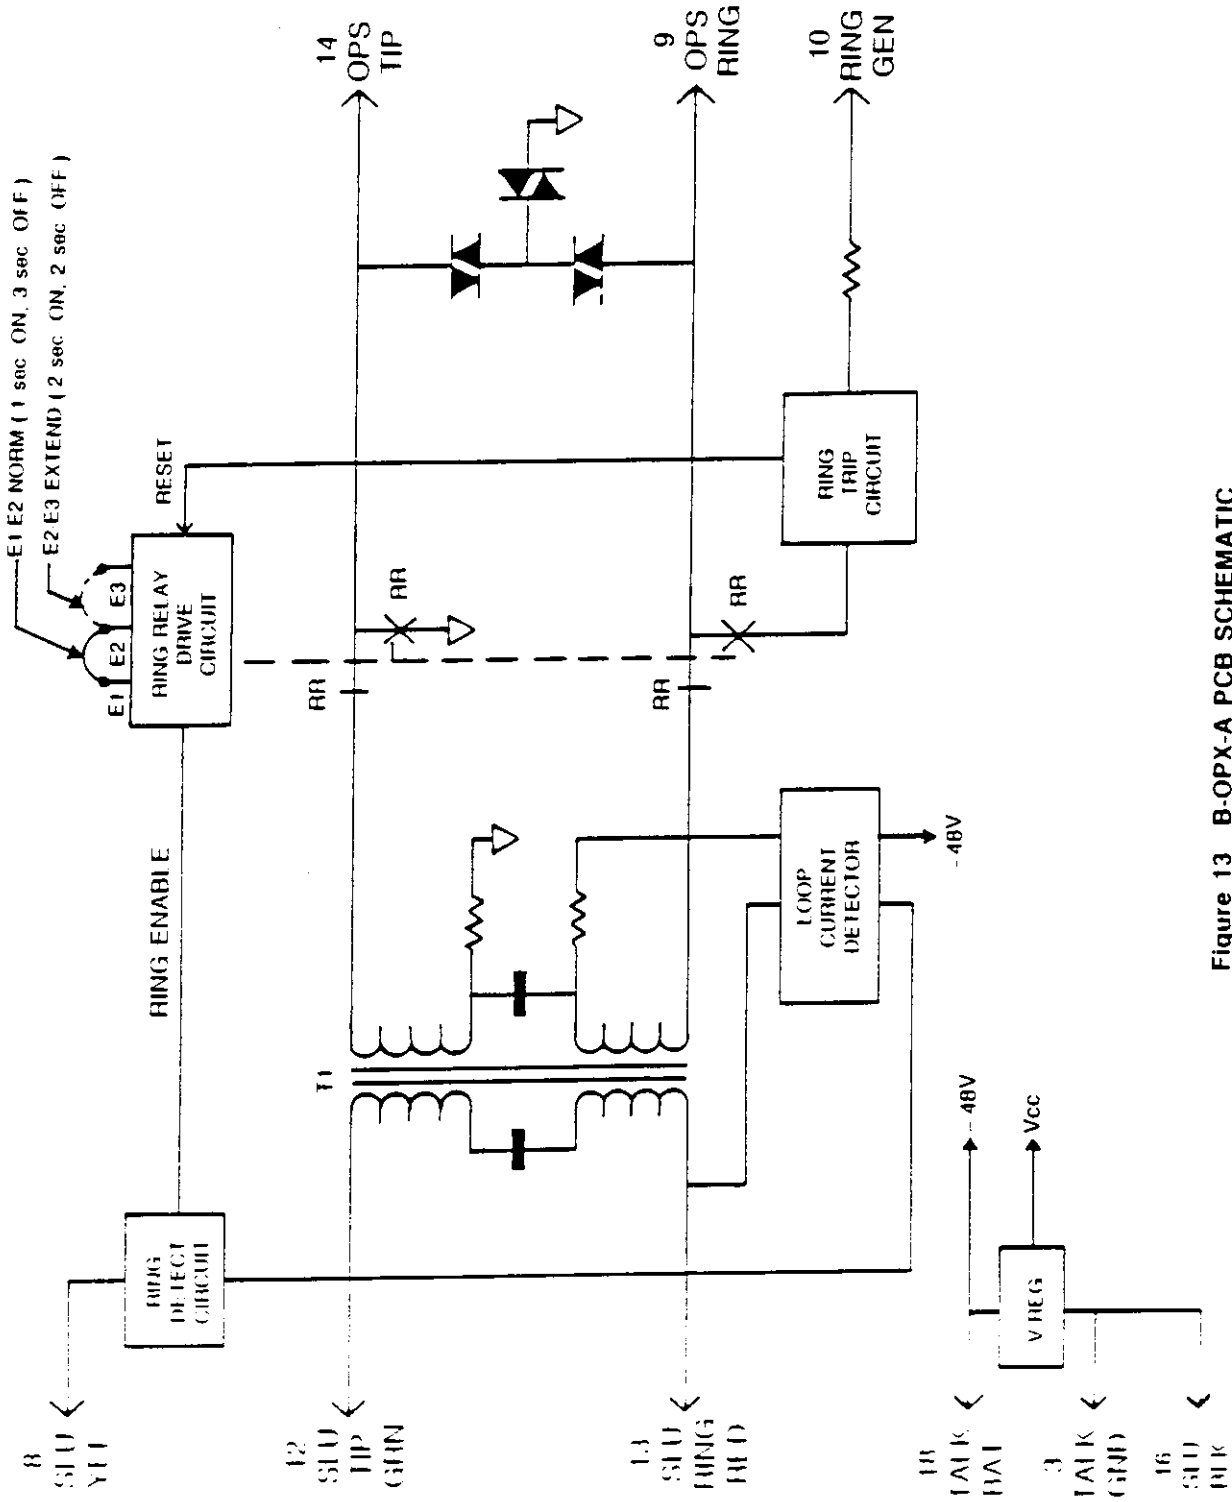

Figure 13 B-OPX-A PCB SCHEMATIC
5.04 When the OPX station goes off hook, a DC current of at least 20mA flows through the battery feed coil (T1) and the wire resistors (Figure 13). This current is detected by the Loop Current Detector. This detector closes a DC path across SLU Tip and SLU Ring. Current flows through this path and an off hook condition is detected on the SLU card. System DM dial tone is heard at the OPX station.